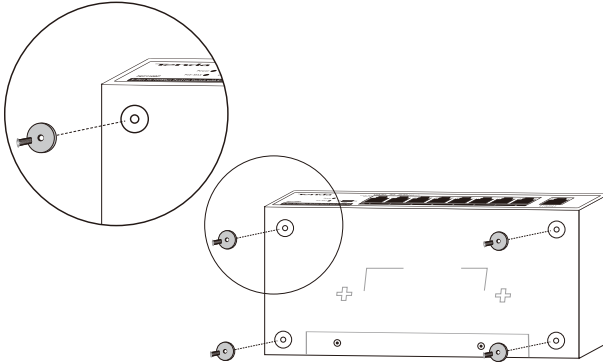

Figure 2-2 Magnet Installation (a)
Step 3: Use screws to secure the magnets to the switch's housing, shown as **Figure 2-2 (a)**;
Step 4: Attach the switch (installed with magnets) tightly onto a stable surface you select, shown as **Figure 2-2 (b)**. When installing, mind your fingers.